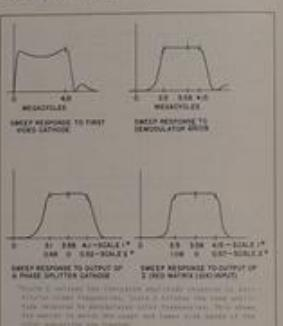
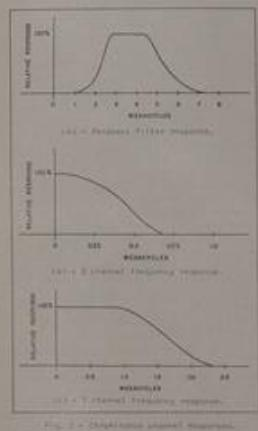

Fig. 6 - Demodulator input responses.
Fig. 7 - Demodulator input responses.
7. With the 2 signal turned off, and the phase control left unadjusted, turn V122 for zero video output from the 2 demodulator as shown in Fig. 6.
8. After fully color bar pattern signal is used, steps 6 and 7 can be accomplished by adjusting the phase control until the required 1 and 0 outputs from the demodulators are obtained as shown in Fig. 6.
Fig. 6 shows the amplitude response at various points in the chrominance section of the receiver. These responses were taken by applying a sweep voltage to the video input terminal of the review peaking filter, measuring each response characteristic in the result of all circuits between the same generator and the point at which measurement is made in the receiver. Fig. 7 shows the individual amplitude responses of the bypassed killer, and I and Q low pass networks.